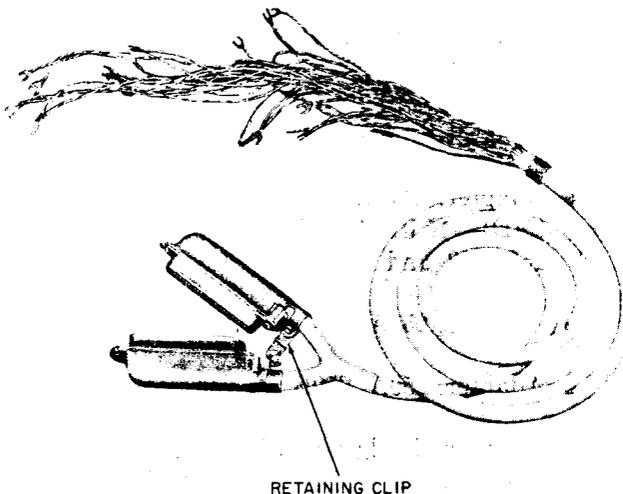

Fig. 1—148A (MD) or 148B (MD) Adapter
A. 148A (MD) and 148B (MD) Adapters (Fig. 1)
2.06 The 148A (MD) and 148B (MD) adapters consist of a 3-foot length of 39-conductor cord, terminated at one end in a Y-form molded sleeve attached to a 50-contact KS-16689, List 2 plug and a KS-16690, List 3 receptacle.
2.10 Connectors are held together by a retaining clip (Fig. 1) for protection during shipment.